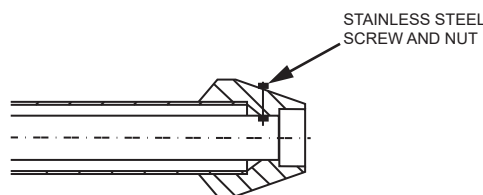

Figure 31. Installing the Rain Cap
A. Cement Y concentric fitting to larger diameter kit pipe. See **Figure 31**.
B. Cement rain cap to smaller diameter kit pipe. See **Figure 31**.
Note: Instead of cementing the smaller pipe to the rain cap, a stainless steel screw may be used to secure the 2 components together when field disassembly is desired for cleaning. See **Figure 31**. Locate the drill location dimple on the outside of the rain cap; at this location, drill a 3/16" hole through the cap and the inner pipe wall with the path of the hole perpendicular to the inner pipe **NOT** the outside of the cap; insert the screw and tighten the bolt; do not over tighten.
Note: Instead of cementing the smaller pipe to the rain cap, a field-supplied stainless steel screw may be used to secure the 2 components together when field disassembly is desired for cleaning. See **Figure 31** (page 33).